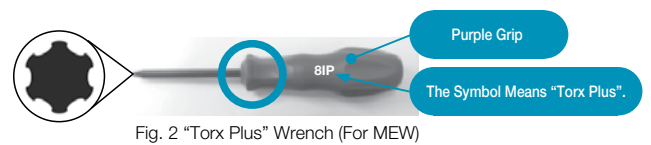

Fig. 2 "Torx Plus" Wrench (For MEW)
- Ref. to Fig. 2 for "Torx Plus" Wrench. (Purple grip)